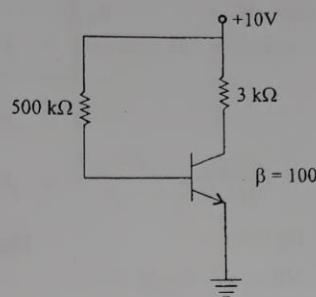

Fig. 1.22
**Example 1.1** For the circuit shown in Fig.1.22, find  $I_C$ ,  $V_{CE}$  and S.